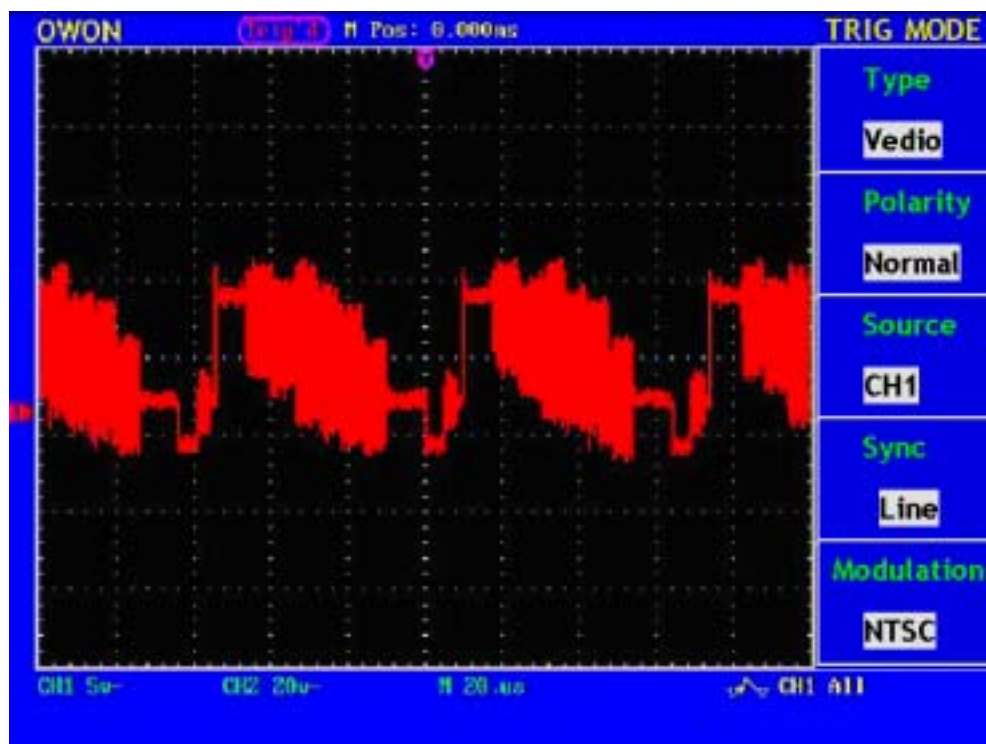

Fig. 38 Video line trigger Oscilloscope
- 6、 Press F4 to chose synchronization as “Line” (refer to Fig. 38)